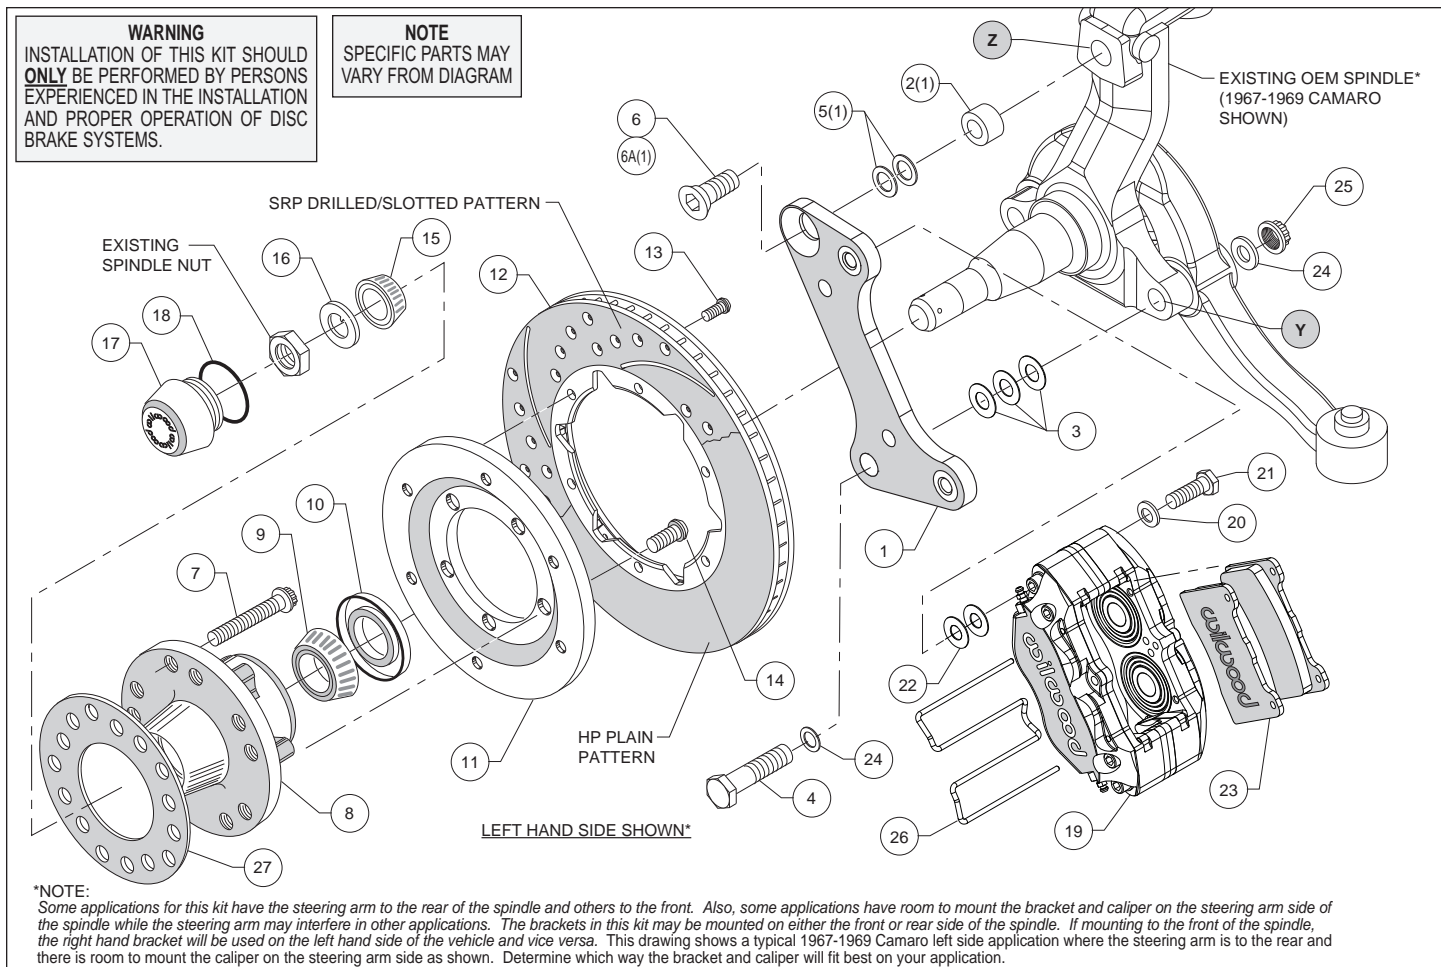
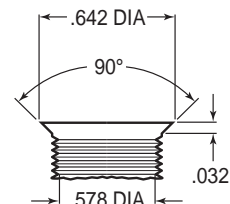
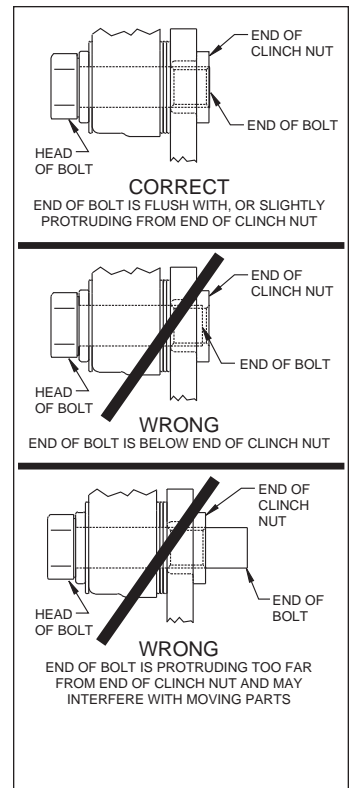

Figure 1. Typical Installation Configuration
Figure 3. Drill and Tap Detail
Figure 4. Clinch Nut Engagement Diagram
Assembly Instructions (numbers in parenthesis refer to the parts list and Figure 1 on the preceding page): **CAUTION:** All mounting bolts must fully engage clinch nuts. Be sure to check that all bolts are either flush or protruding through flanged side of clinch nut after shimming, Figure 4.
•**NOTE:** Some applications for this kit have the steering arm to the rear of the spindle and others to the front. Also, some applications have room to mount the bracket and caliper on the steering arm side of the spindle while the steering arm may interfere in other applications. The brackets in this kit may be mounted on either the front or rear side of the spindle. If mounting to the front of the spindle, the right hand bracket will be used on the left hand side of the vehicle and vice versa. Figure 1 shows a typical 1967-1969 Camaro left side application where the steering arm is to the rear and there is room to mount the caliper on the steering arm side as shown. Determine which way the bracket and caliper will fit best on your application.
•**NOTE:** Some spindles in this year range may require the following modifications (reference Figure 1 and Figure 3): Top anchor pin hole (Z) must be drilled and tapped to the dimensions as outlined in Figure 3. The lower bolt hole (Y) in the spindle used to mount the new caliper bracket, and the mating steering arm hole, must be enlarged to .50" by drilling. It is recommended these modifications be performed by a qualified machinist.
•Install wheel studs (7) into the hub (8), Photo 1. Torque to 77 ft-lb. **NOTE:** There are two five lug patterns in the hub (5 x 4.50 and 5 x 4.75). Ensure the correct hub stud pattern is being used to fit the wheel application.
- Pack the large inner bearing cone (9) with high temperature disc brake bearing grease (available from your local auto parts store) and install into the backside of the hub (8), Photo 2.
- Install the grease seal (10) by pressing into the backside of the hub (8), flush with the end of the hub, Photo 2.
- Orient the rotor (12) and the rotor adapter (11) as shown in Figure 1 and Photo 3. Attach the rotor to the adapter using bolts (13). Using an alternating sequence, apply red *Loctite*® 271 to the threads, and torque to 25 ft-lb.
- Mount the adapter/rotor assembly (11 and 12) to the hub (8) using bolts (14), as shown in Figure 1 and Photo 4. Using an alternating sequence, apply red *Loctite*® 271 to the threads, and torque to 45 ft-lb.
- Disc Brake Spindle Application Only:** Follow the instructions below, but instead use bolt (6A), spacer (2), and two .050" thick washers (5) in the upper bolt hole location, Figure 1.
- Orient the flat bracket (1) as shown in Figure 1 and Photo 5, and install using bottom bolt (4), washers (24), and nut (25), Figure 1. Initially place three .032" thick shims (3) between the bracket and spindle. Install the upper bolt (6 or 6A), Photo 6. Temporarily tighten bolts. **NOTE:** *The bracket must fit squarely against the mounting surfaces on the spindle.* Inspect for interference from casting irregularities, machining ridges, burrs, etc. Ensure that the flanged heads of the clinch nuts in the bracket are facing outboard. Temporarily install the hub/rotor assembly. Check that the bracket is aligned parallel to the rotor, Photo 7. If not, adjust by adding or subtracting shims (3) on the lower bolt between the bracket and spindle, Figure 1. Once the bracket alignment is correct, remove the upper bolt (6 or 6A), apply red *Loctite*® 271 to the bolt threads, and torque to 120 ft-lb. Torque the lower lock nut to 65 ft-lb.
- Pack the small outer bearing cone (15) with high temperature disc brake bearing grease and install into hub (8). Slide the hub/rotor assembly onto the spindle. Secure using spindle washer (16) and OEM spindle nut, Photo 8. Adjust bearings per OEM specifications. Install saved OEM nut lock (if any) and a new cotter pin (not included).
- Screw dust cap (17) into hub (8). Friction created by the o-ring (18) on the dust cap keeps it from unscrewing. **NOTE:** *The O.D. of the existing OEM spindle washer may be larger than the I.D. of the dust cap not allowing it to seat against the hub face. Therefore, use the spindle washer (16) supplied with the kit instead of the OEM washer.*
- NOTE:** *Please reference the caution statement at the beginning of the assembly instructions.* Mount the caliper (19) onto the caliper bracket (1) using bolts (21) and washers (20), as shown in Figure 1. Initially place two .035" thick shims (22) on each bolt between the caliper and the bracket, Photo 9. Temporarily tighten the mounting bolts and view the rotor (12) through the top opening of the caliper. The rotor should be centered in the caliper, Photo 10. If not, adjust by adding or subtracting shims (22) between the bracket and the caliper. Always use the same amount of shims on each of the two mounting bolts. **NOTE:** *The end of the bolt must be flush with or slightly*
protuding from the head of the clinch nut in the bracket. If necessary, place spare shims between the washer and the caliper mounting ear to achieve the proper clinch nut engagement, as shown in Figure 4. Once the caliper alignment is correct, remove the bolts one at a time, apply red Loctite® 271 to bolt threads, and torque to 40 ft-lb.